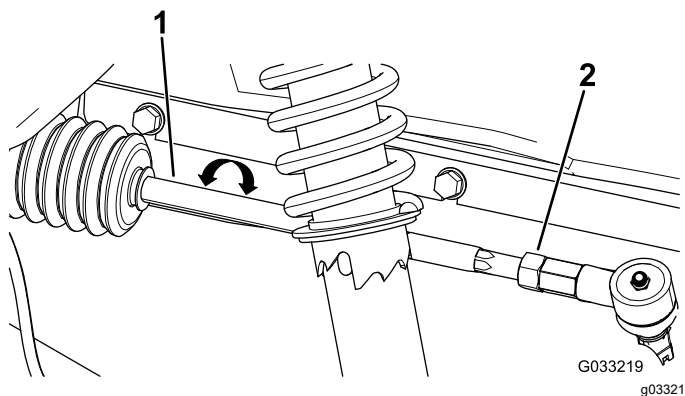

Figure 41
3. If the measurement does not fall within 0 to 6 mm (0 to 1/4 inch), loosen the jam nuts at the outer end of the tie rods (Figure 41).